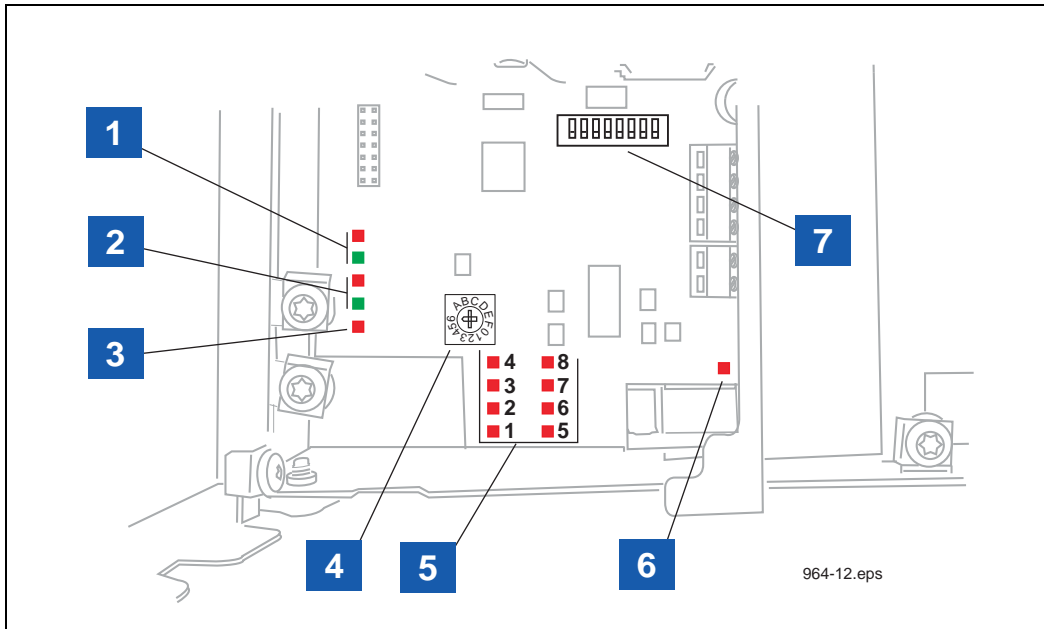

Figure 12. TLS RF Diagnostic LEDs And Switch Locations
- a. Plug the TLS RF's ac power cord into a 120/240 Vac outlet. Confirm the Green /Red LEDs (refer to item 2 in Figure 12), are flashing rapidly. This is an indication there is RS-485 network activity between the TLS RF and the Receiver.
- c. If it is not, check PWR LED (refer to item 3 in Figure 12), if not lit; check power wiring. If the wiring is correct, measure the voltage across the twisted pair power wires, it should read +15Vdc. If it is not, the TLS RF is bad.
- d. If the Red LED (refer to item 2 in Figure 12) is not flashing, confirm the TLS RF address is set to Master (refer to Appendix B, Figure B-1 on how to set the TLS RF Device Number). If it is, the TLS RF has failed.
- b. Go to the TLS RF, open its cover. One of the 8 Red received LEDs should be flashing (refer to item 5 in Figure 12). Observe which LED is lit and compare it against the Transmitter Device Number; they should match. For example, if the Transmitter ID is set to 1, the LED number 1 in the TLS RF should be flashing.
2. In this example, device output 1 is a Flow Meter - Observe polarity. Note: each time a transmission is received from this device, LED 1 (see item 5 in Figure 12) will flash.
3. In this example, device output 2 is a Flow Meter - Observe polarity. Note: each time a transmission is received from this device, LED 2 (see item 5 in Figure 12) will flash.
Figure 12 locates the diagnostic lights and setup switches in the TLS RF.
LEGEND FOR NUMBERED BOXES IN Figure 12